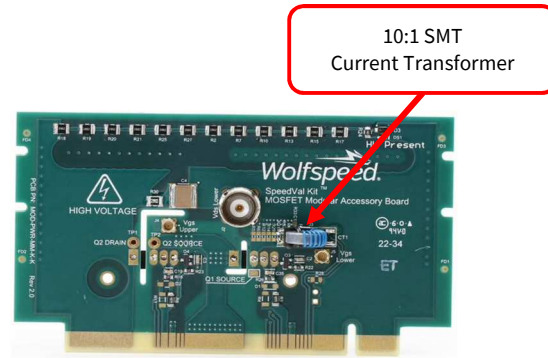
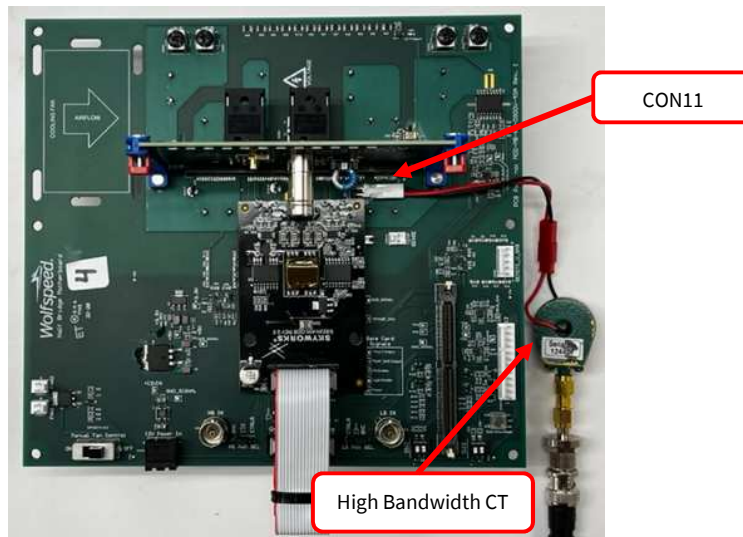

Figure 15: Power daughter card with CT
Figure 16: CON11 connected with high bandwidth CT
A 10:1 SMT current transformer (CT) is included with the half-bridge motherboard. This CT can be mounted on any of the power daughter cards instead of using the SMT shunt resistors as shown in Figure 15. The output of this CT is fed through CON11. A wire harness is needed to connect pin 1 of CON11 through the aperture of a high-bandwidth current transformer and back to pin 2 of CON11. Figure 16 shows the wire harness and a high-bandwidth AC current transformer connected.